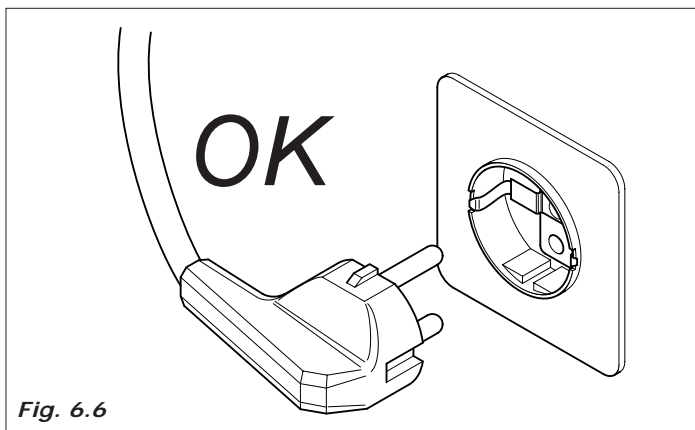

Fig. 6.6
- The beverage machine is equipped with a power supply cable of H05VV-F 3x1 mm2, with SCHUKO plug (Fig.6.6).